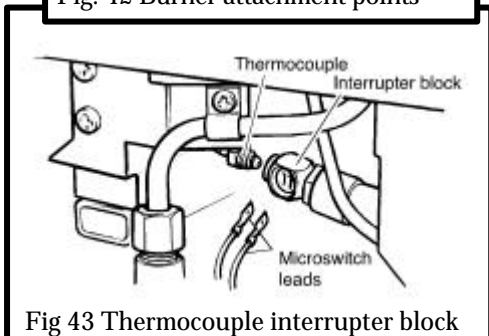

Fig. 43 Thermocouple interrupter block
13.7 To remove the thermocouple interrupter block (See figure 43)